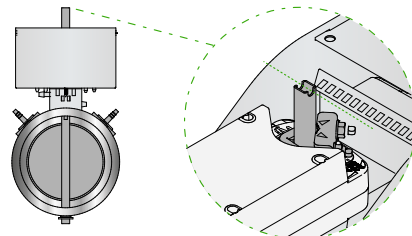

Figure 27. Damper blade position "Normally closed".
3. Make sure that the position of the damper blade is correct, see figure 27 or 28. NOTE! The spindle clamp is always fitted in the direction as set out above on the circular damper.